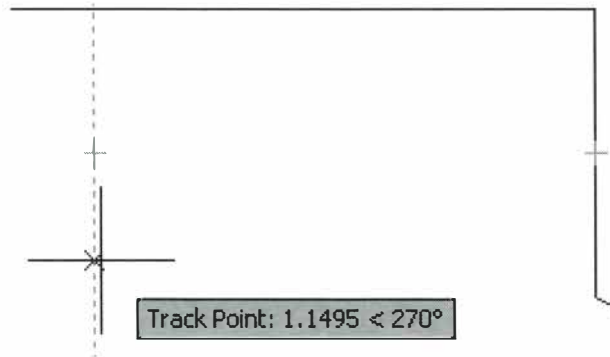

Figure 2–11
5. Move the cursor to lock the required tracking angle from the temporary point, and then type a distance to move in relation to the temporary point, as shown in Figure 2–11.